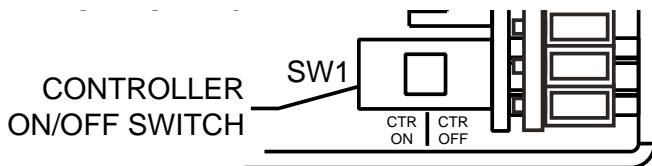

Figure 4 - Controller on/off switch detail
- 8.2.1 CONTROLLER INSTALL / REMOVAL:** To the far right (see figure 4 below) is the controller on/off switch. This switch must be placed in the off position prior to controller install or removal to ensure it is not damaged in an energized system. Removing the controller while in the ON position can damage the system and void the warranty.